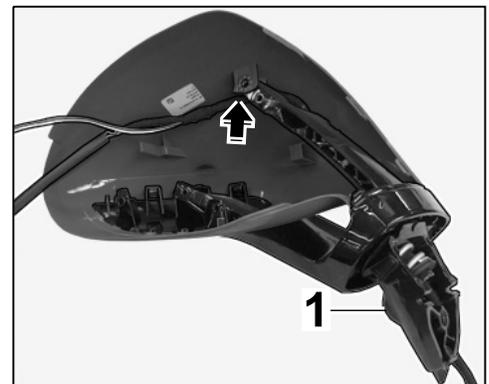

Figure 9
4.3.2 Insert mirror base ⇒ *Figure 9* -**1**- into the guide ⇒ *Figure 9* -**arrow**- for upper part of housing.